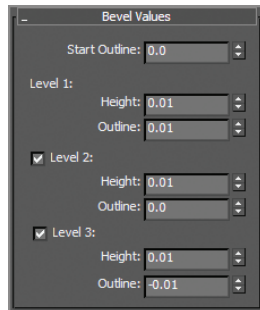

FIGURE 2.35 Bevel Values rollout showing all of the shape parameters for the number 12
11. Match all bevel levels to Figure 2.35.